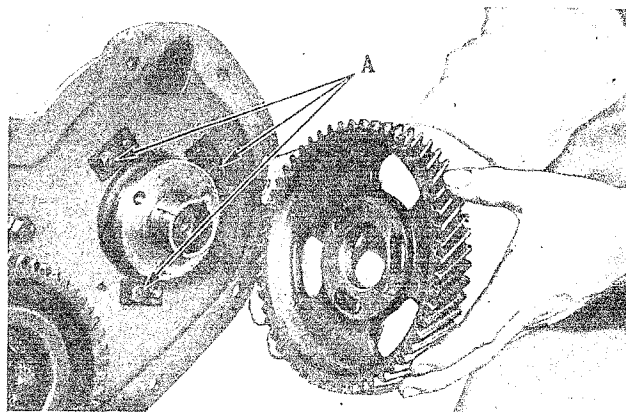

Figure 66E. Cap Screws Holding Pump Mounting Flange to Crankcase Front Plate (UD-16 Engine)
(9) Through holes in the pump gear, remove three cap screws (A), Fig. 66E, which secure the pump mounting flange to the crankcase front plate.
(10) Remove two cap screws which secure the pump mounting flange to the crankcase cover.